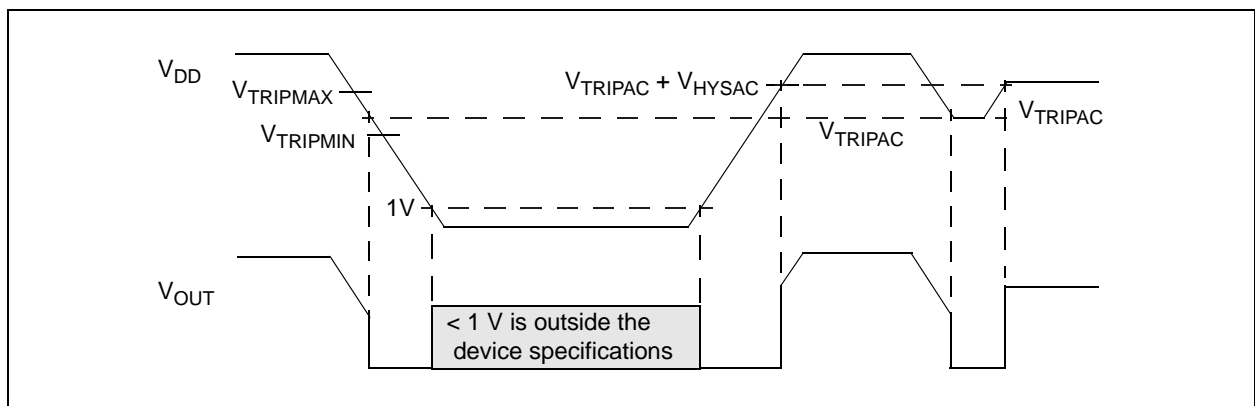

**FIGURE 4-1:** Typical Application Circuit.
**Note:** Unless otherwise indicated, all limits are specified for  $V_{DD} = 1V$  to  $5.5V$ ,  $R_{PU} = 100\text{ k}\Omega$  (only **MCP111**; see **Figure 4-1**),  $T_A = -40^\circ\text{C}$  to  $+125^\circ\text{C}$ .
**Note:** Unless otherwise indicated, all limits are specified for  $V_{DD} = 1V$  to  $5.5V$ ,  $R_{PU} = 100\text{ k}\Omega$  (only MCP111; see Figure 4-1),  $T_A = -40^\circ\text{C}$  to  $+125^\circ\text{C}$ .
For many of today's microcontroller applications, care must be taken to prevent low-power conditions that can cause many different system problems. The most common causes are brown-out conditions, where the system supply drops below the operating level momentarily. The second most common cause is when a slowly decaying power supply causes the microcontroller to begin executing instructions without sufficient voltage to sustain SRAM, thus producing indeterminate results. Figure 4-1 shows a typical application circuit.
A 0.1  $\mu$ F bypass cap mounted as close as possible to the  $V_{DD}$  pin provides additional transient immunity (refer to Figure 4-1).